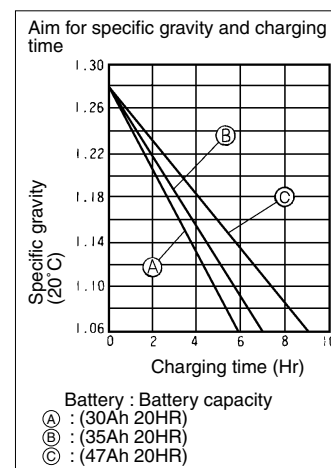

Fig. 18
- Measure the specific gravity for the battery fluid by using the hydrometer, and calculate the charging time in according with the table shown on right side (Fig. 18).